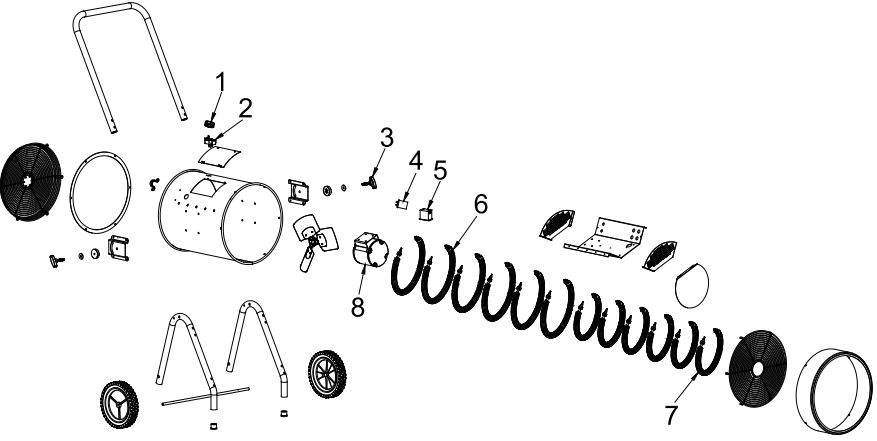

Figure 9
2. Refer to illustration of parts placement (Figure 9).